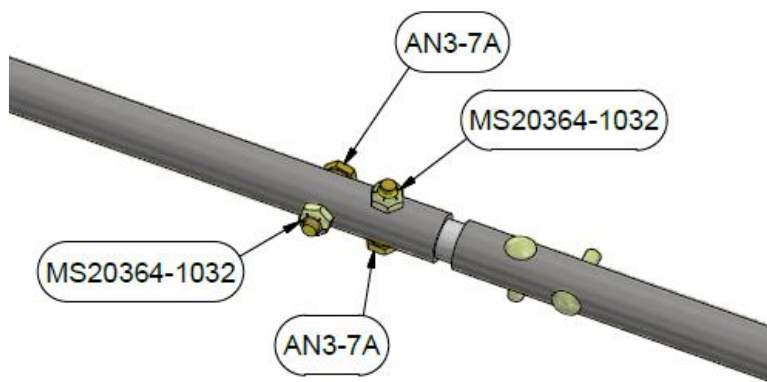

Figure 2-7
8. Install and assemble the Cessna 172 Roll Inboard Pushrod (P/N 7200-088) and Cessna 172 Outboard Pushrod (P/N 7200-090). Figure 2-7 shows the assembled joint of these two parts.